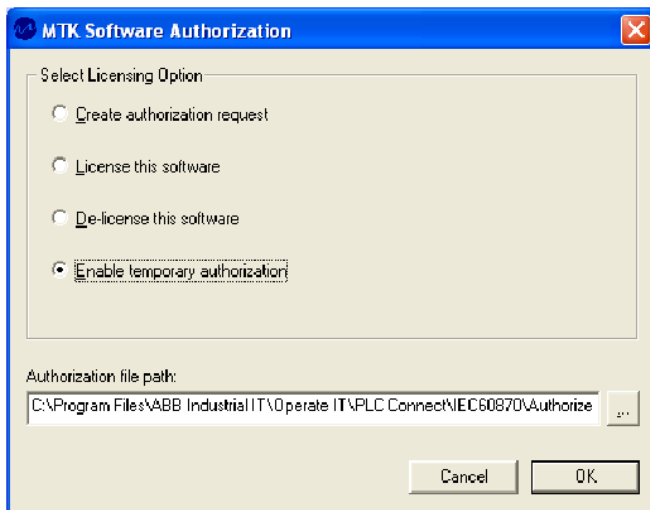

Figure 38. MTK Software Authorization Dialog Box
The MTK Software Authorization dialog box appears (Figure 38).
4. The MTK Software Authorization dialog box appears (Figure 38).
The rest of the licensing options in the MTK Software Authorization dialog box (Figure 38), are described in Table 7. When an action is selected, the corresponding default path and file name are displayed. Click ... to locate a file.